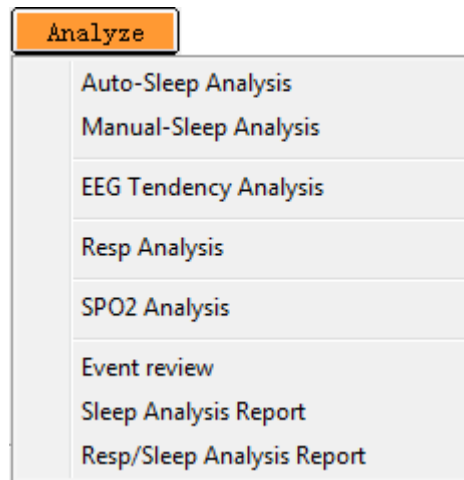

Fig 4-14 Analysis Menu
8. **[Analyze]:** This command in the Review Interface opens a pull-down menu with a number of analyses available, as shown in Fig 4-14: